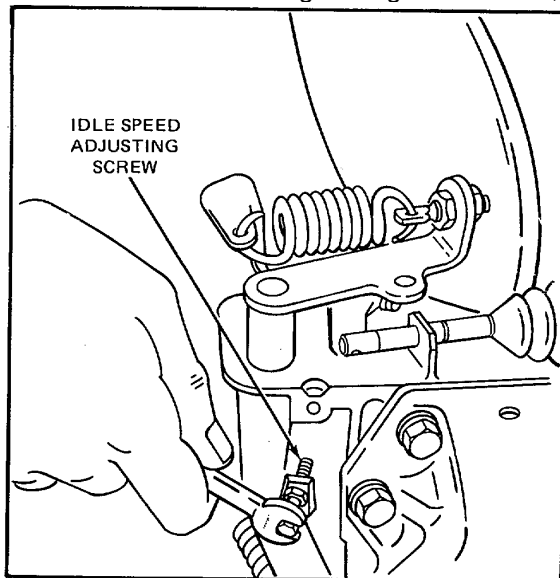

Figure 6. Adjusting Maximum No-Load Engine Speed
2. Loosen the locknut and adjust the maximum speed adjusting screw (Fig. 6) until the required no-load speed is obtained.